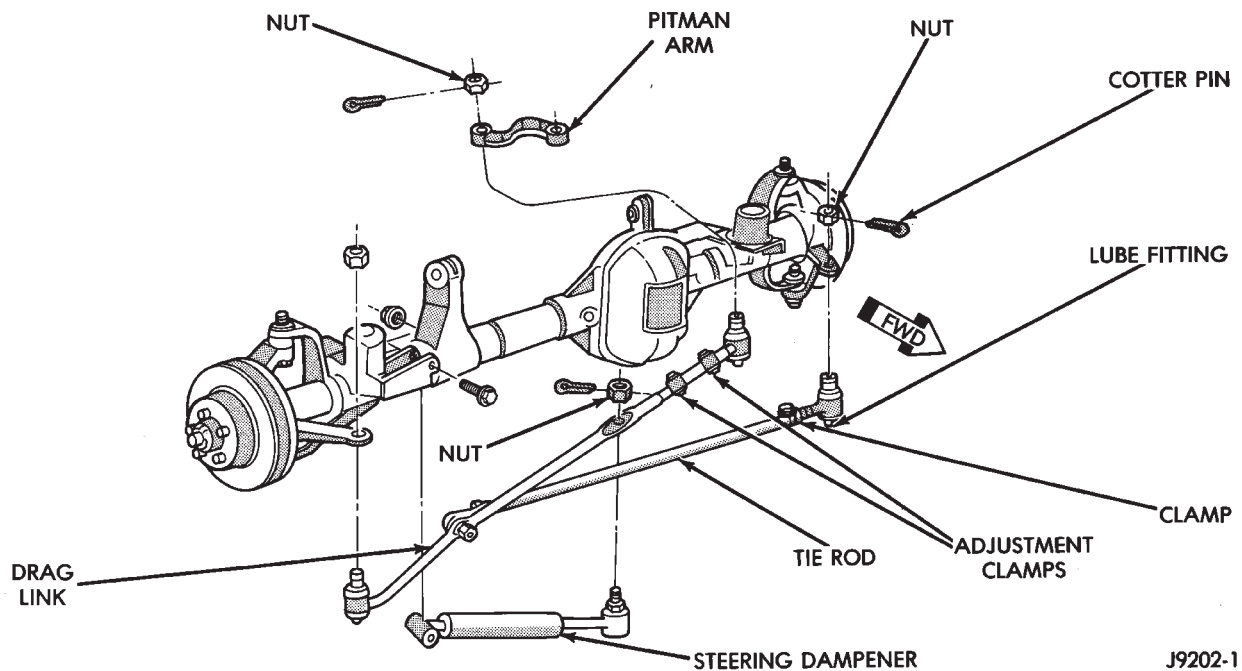

Fig. 4 Steering Linkage—XJ Vehicles
(1) Start the engine and turn wheels both ways before straightening the wheels. Secure the steering wheel with the front wheels in the straight-ahead position.
(2) Loosen the adjustment sleeve clamp bolts (Fig. 4).